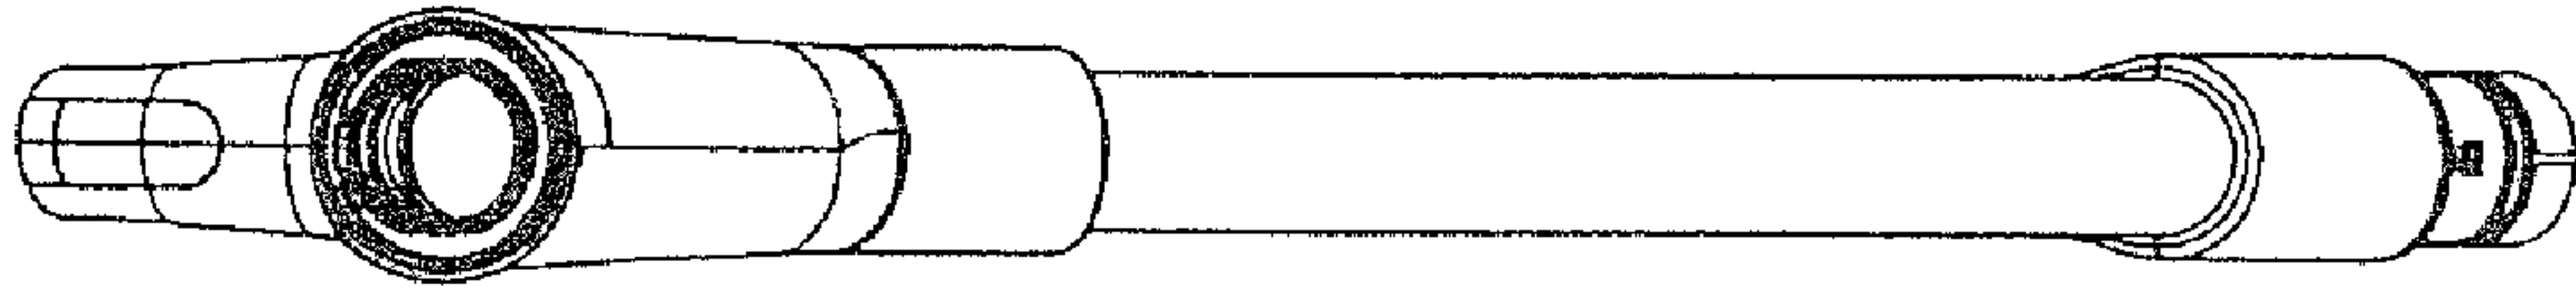

FIG. 2
- FIG. 2 is a rear view in a closed position;